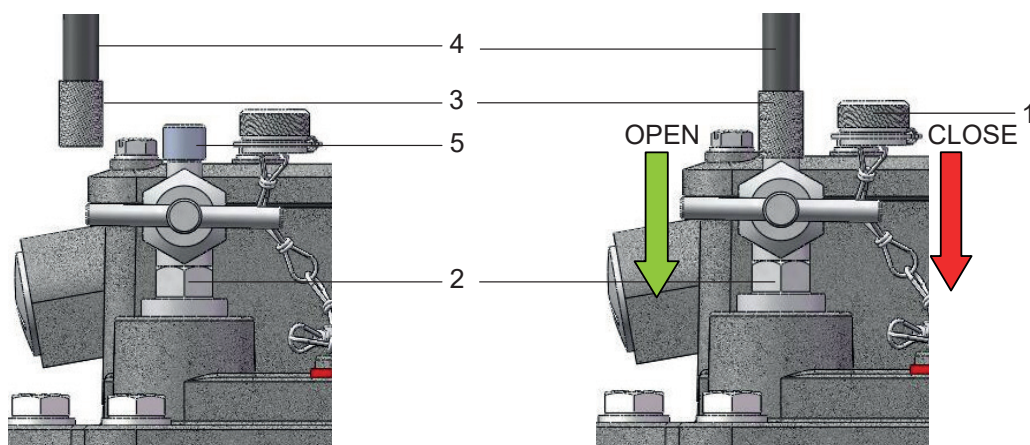

Figure 14 - Testing by means of test pump
- Remove the small cap nut (Fig. 14/ No. 1) from the test valve (Fig. 14/ No. 2)
- Fit the adapter with check valve (Fig. 14/ No. 3) of the hose (Fig. 14/ No. 4) providing the connection to the test pump on the valve nozzle (Fig. 14/ No. 5)